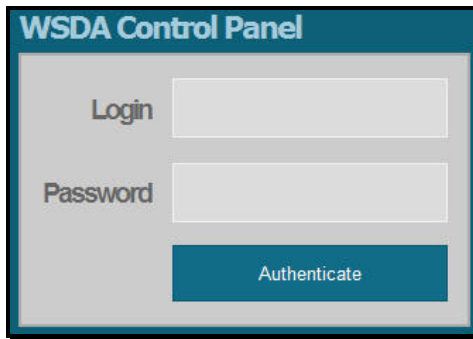

Figure 2. WSDA[®] Control Panel Login window
- Your web browser window will spawn with the WSDA[®] Login window as shown in Figure 2.